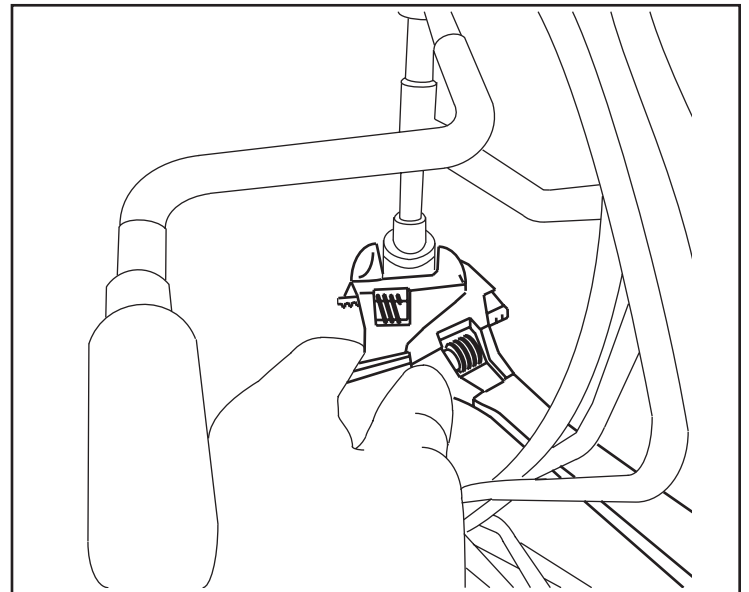

Figure 19 – Attach EEV
10. Using two adjustable wrenches, attach and tighten the EEV flow control assembly at the mechanical fitting as shown in Figure 19. Tighten the fitting approximately 1/2 a turn past finger tight.